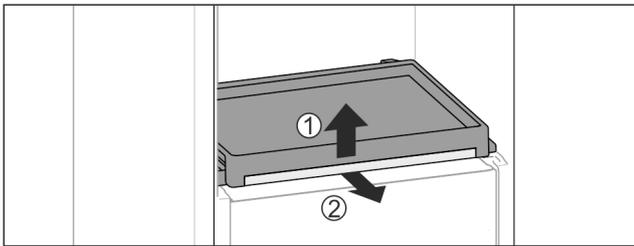

Fig. 31
- ▶ To remove the pull-out board with glass panel: Gently lift the glass panel at the front Fig. 31 (1) and pull out to the front Fig. 31 (2).